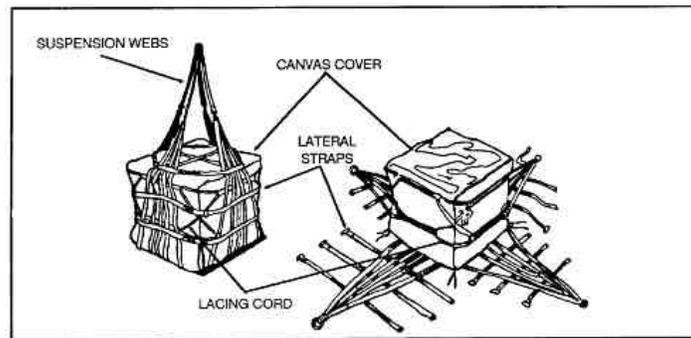
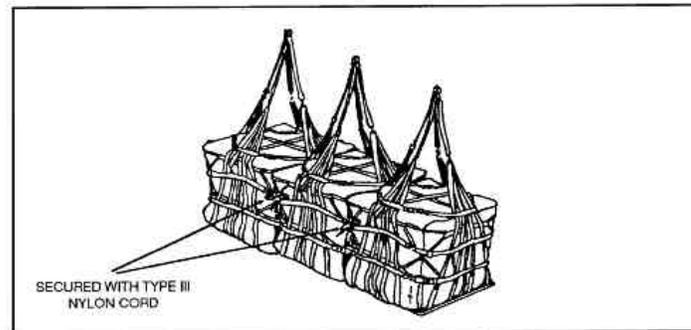

Figure I-4. Parts of the A-22 cargo bag.
Figure I-5. Example of a load of Multiple A-22 cargo bags.
c. **A-22 Cargo Bag.** An A-22 cargo bag is used to transport any standard palletized load or loose cargo up to 2,200 pounds (Figure I-4). A-22 cargo bags can be rigged in multiples for moving large amounts of ammunition. The CH-47D can lift about 10 to 12 pallet-loaded A-22 cargo bags of medium or heavy mortar ammunition. It can carry about 15 pallet-loaded A-22 cargo bags of light mortar ammunition (Figure I-5).